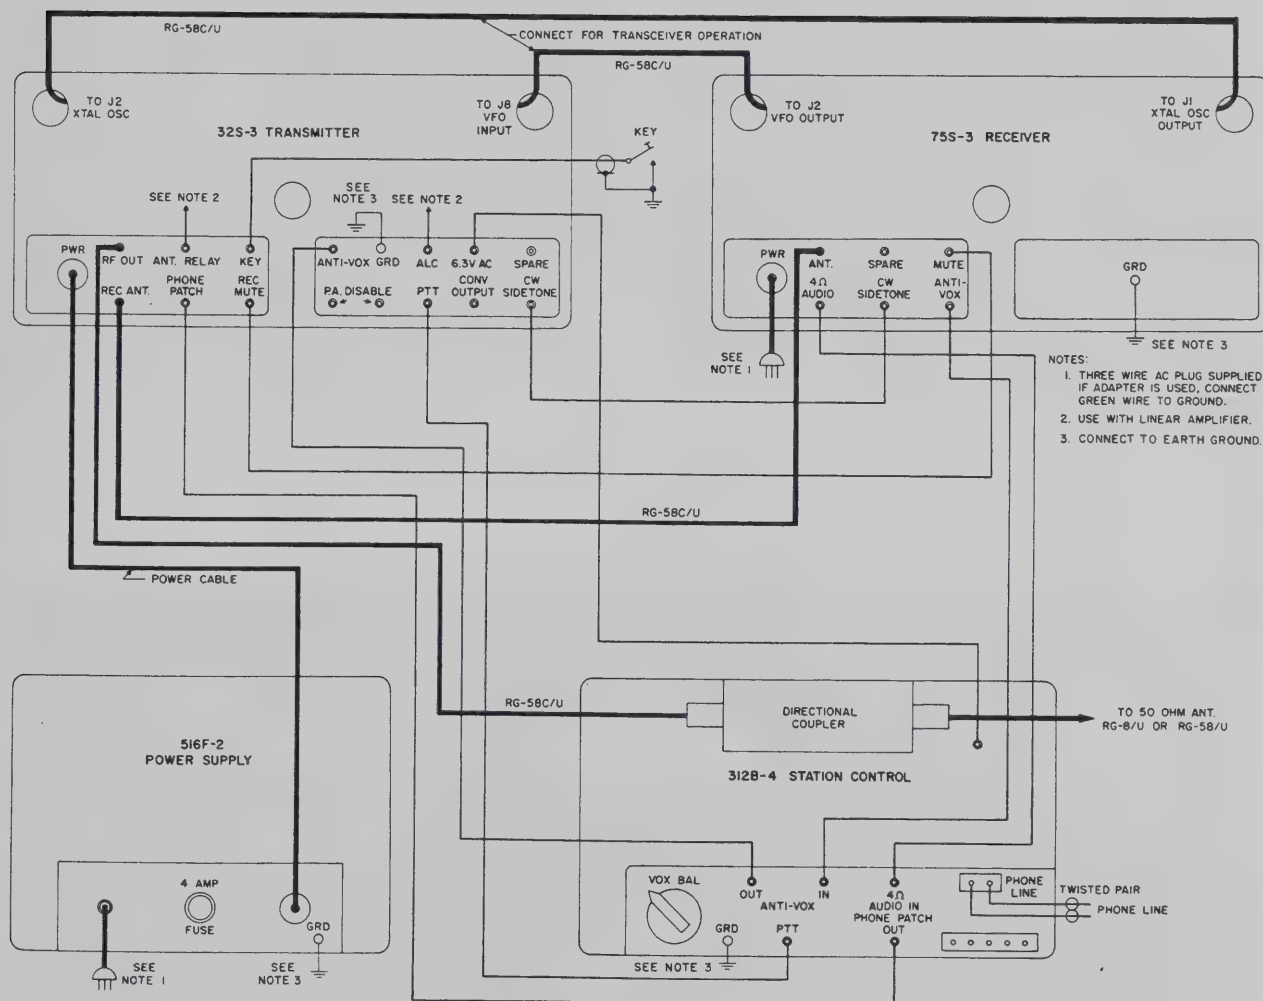

Figure 1-2. Station Interconnections
1.2.2 CABLING WITH 32S-3 TRANSMITTER. Figure 1-2 shows a complete station interconnection for a 75S-3 or 75S-3A Receiver, 32S-3 Transmitter, and
a. Connect the 32S-3 and 75S-3/3A as shown in figure 1-2.